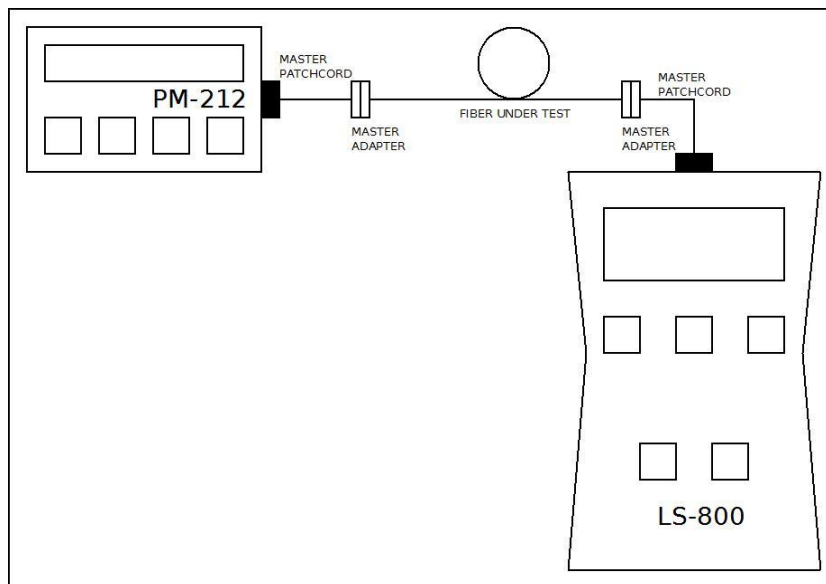

Figure 6: Measurement Loss by method 6
3. Connect the trace to be measured between the master cords. An extra master adaptor is required (figure 6).